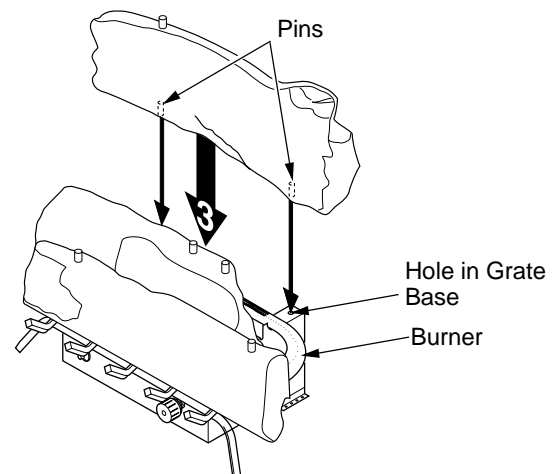

Figure 30 - Installing Rear Log (#3) (CCL3930PTA Shown)
3. Locate pins on the bottom of back log (#3). Slide these pins into the holes in the grate base behind the burner (see Figure 30).